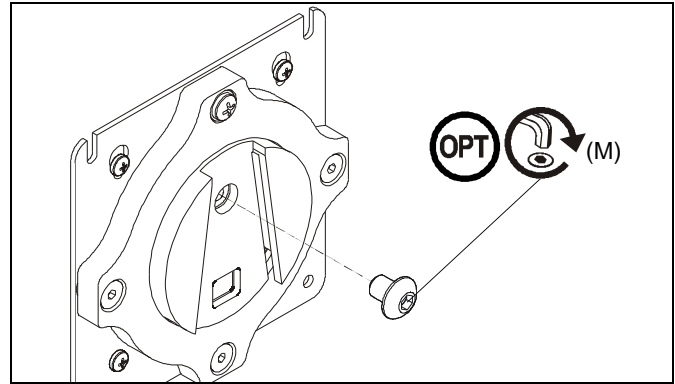

Figure 8
NOTE: (Optional) Rotational adjustment may be locked by installing rotational locking screw (M) into back of faceplate. (See Figure 8)